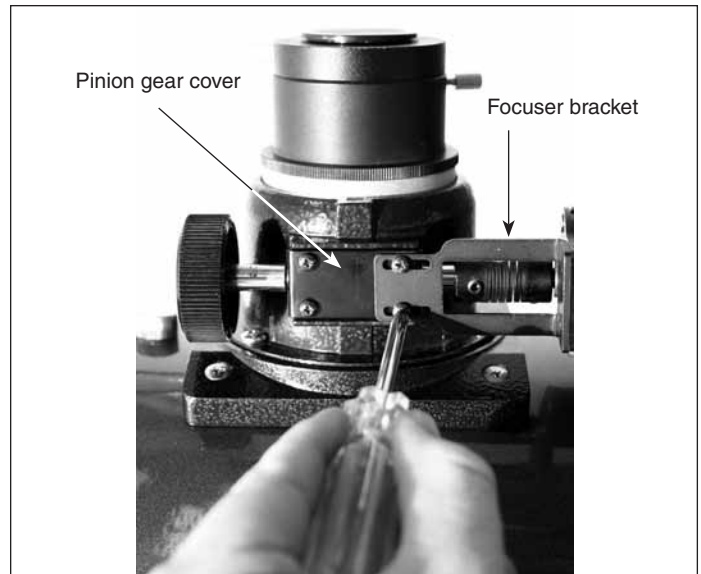

Figure 9. The focuser bracket is connected with two of the four pinion gear cover screws.
6. Attach the focuser bracket to the pinion gear cover. This is done by removing two of the four Phillips head screws that secure the pinion gear cover to the focuser (Figure 9). Remove the two screws located on the same side of the focuser as the motor. Now, orient the bracket as shown in Figure 9, and replace the two screws through the focuser bracket and pinion gear cover. Do not completely tighten the screws yet.
8. Now, tighten the two pinion gear cover screws that attach the focuser bracket to the focuser (see Figure 9).
1. For rack-and-pinion focusers, make sure the four pinion gear cover screws (Figure 9) are not too tight. They should be snug, but if too tight they will restrict the motion of the focuser's rack-and-pinion gears.